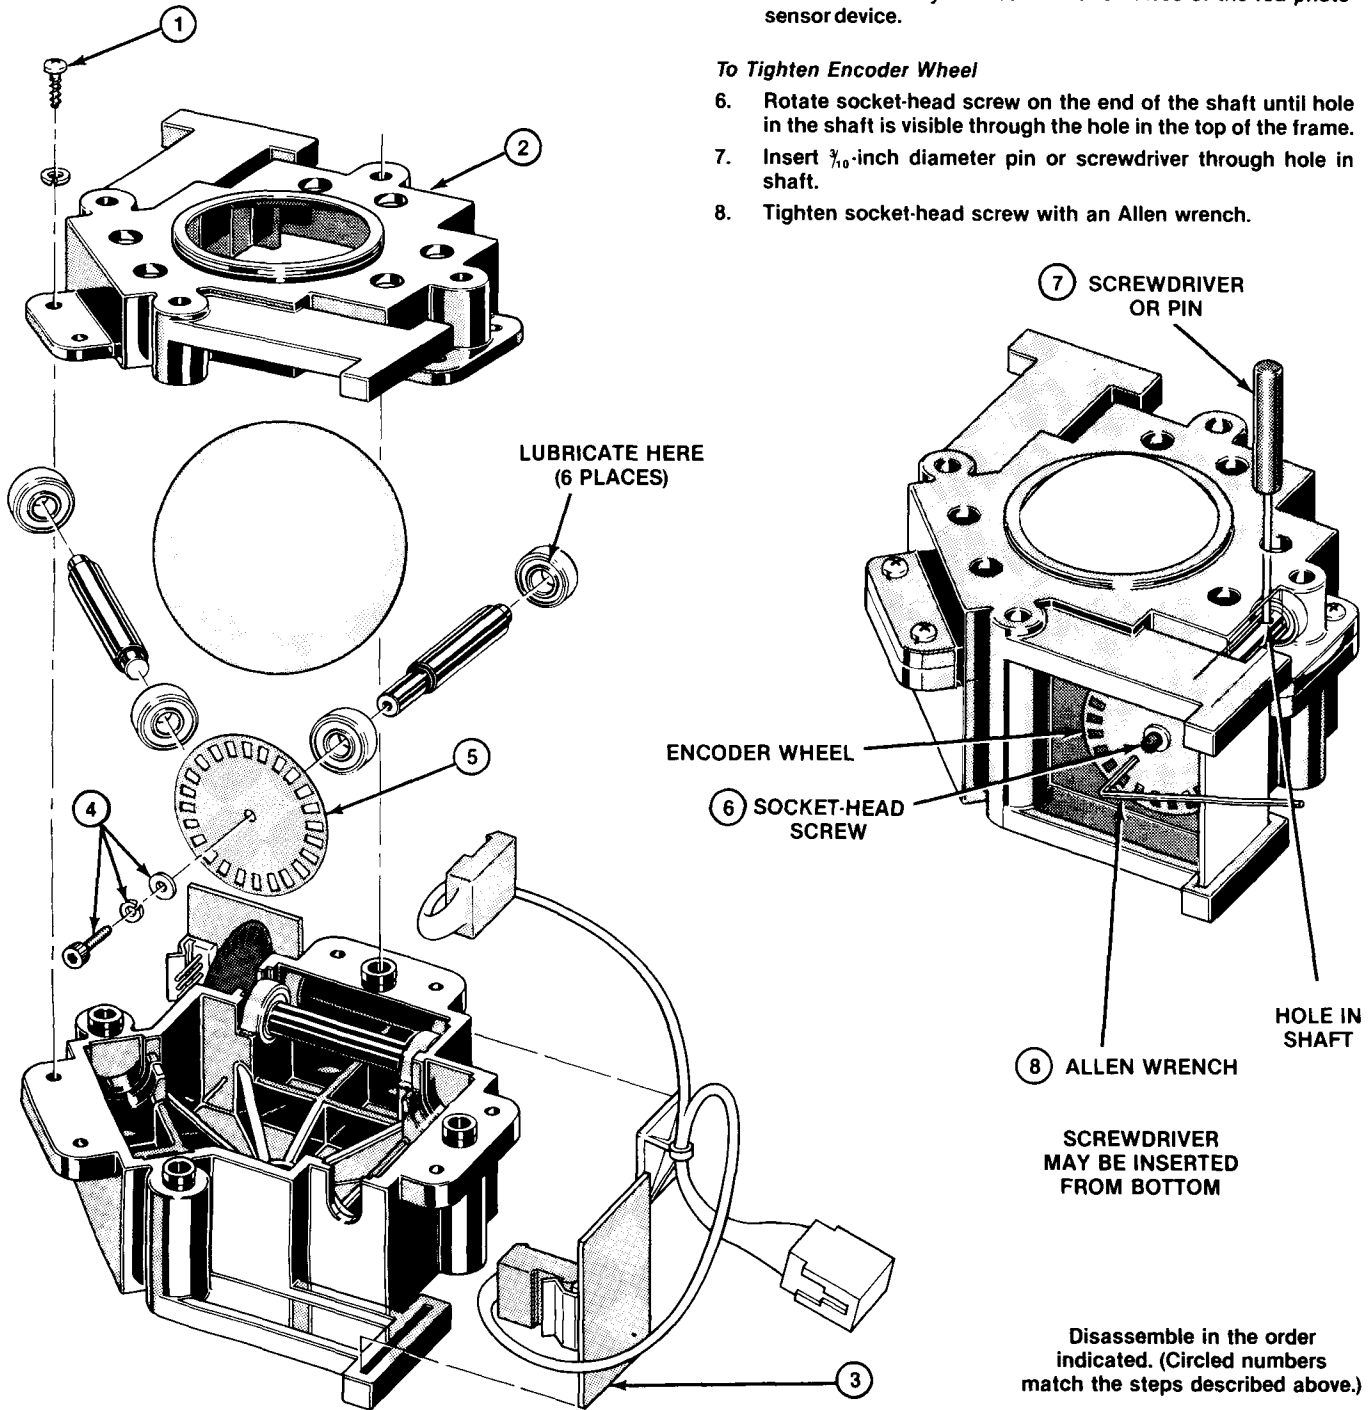

Figure 11 Mini-Trak Ball™ Maintenance and Repair
For further instructions on how to replace the ball, either coupler PCB or either encoding wheel, see Figure 11.
1. First remove the entire Mini-Trak Ball™ assembly from the control panel as shown in Figure 11. Now locate the six "twin-lead" thread-forming screws in the black frames or plastic pieces; remove these six screws.